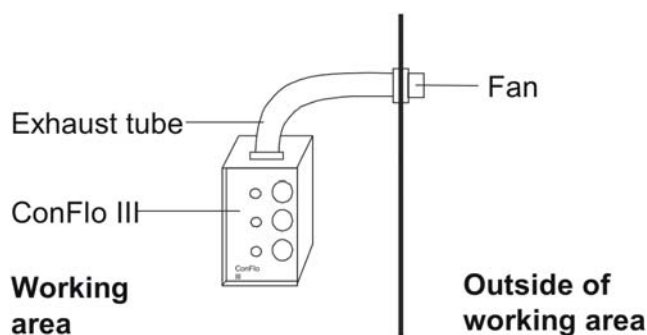

Figure 3-7. Exhaust tube
Install an exhaust tube on top of your ConFlo III as shown in Figure 3-7 to remove the toxic carbon monoxide (CO) and sulfur dioxide (SO₂) from inside of ConFlo III out of your working area.